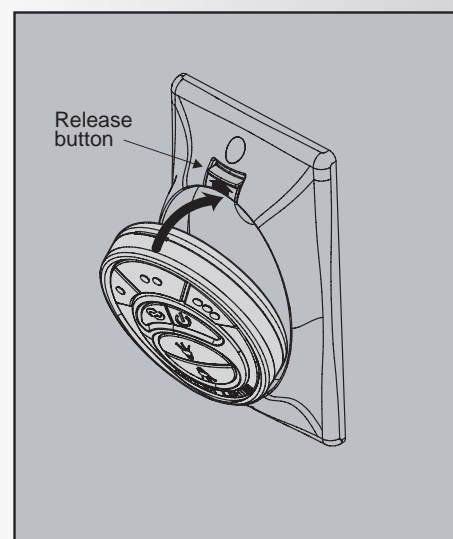

Fig. 30
1. To place the transmitter in the wall plate, put the bottom end in first and then press the top into the wall plate. The transmitter is now held in the wall plate and will function from here. (Fig. 30)